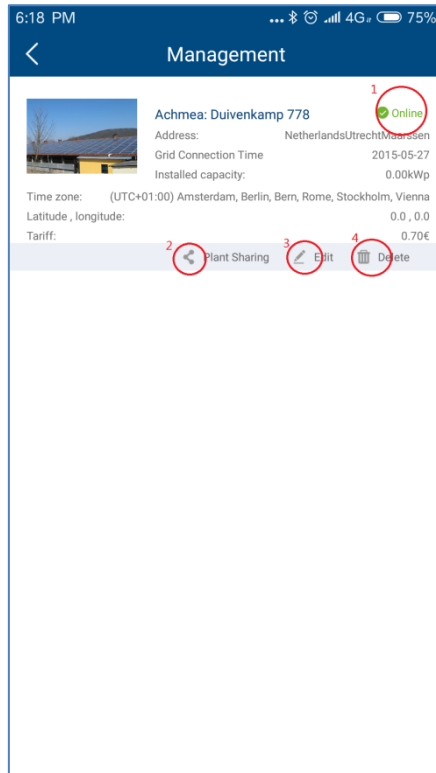

Figure 2-4-2-1 Plant Management
1. Add a monitor device. You need to enter the monitor device serial number and registration code, or scan the QR code of the monitor device. As shown in Figure 2-4-2-2-2.